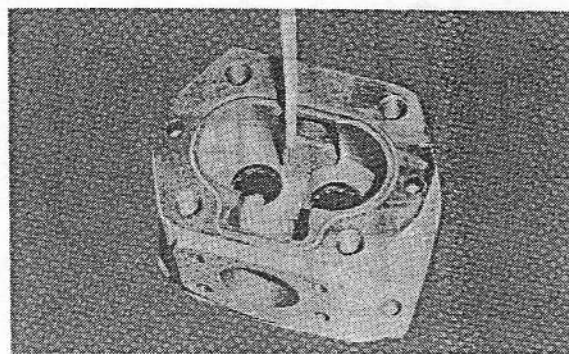

Fig. 46
7. Amply apply oil to the surfaces which comes into contact with the gears. (Fig. 46)